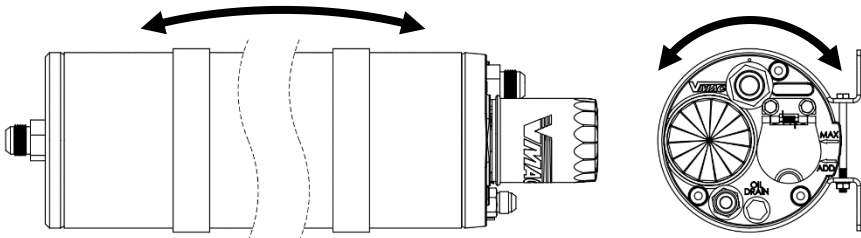

Figure 3 – Tank Level (left) and Orientation (right)
- Rotate the tank into the orientation shown in Figure 3. The tank shall be upright with the oil drain being its lowest point when mounted onto the equipment, then tighten the pinch bolts on the C-clamps to secure the tank.